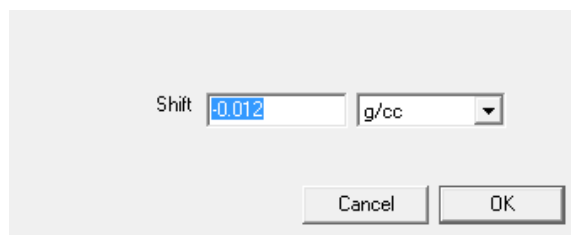

Fig. B02.17 • Shifting the reference density
- Click on the '>' button of the Density (PRH) line to shift the measured value, Fig. B02.17.